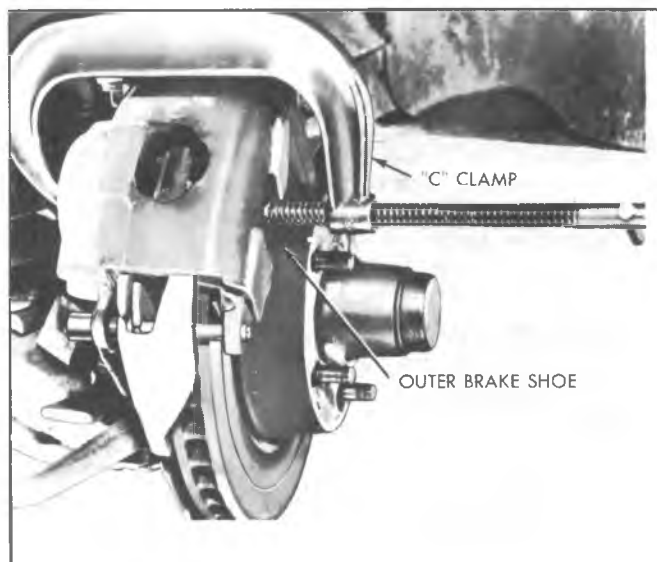

Fig. 28—"C" Clamp for Removal Aid
3. Push the piston back into its bore. This can be accomplished by using a "C" clamp as shown in Figure 28.